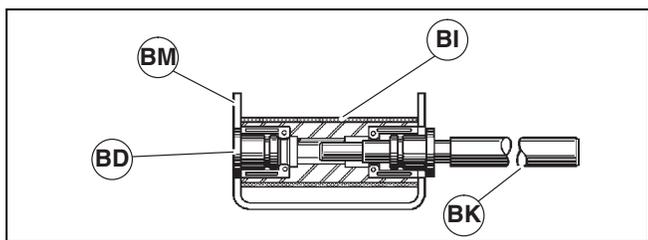

Figure 42
- Using sleeve arbor tool (BK) as a lever, align pulley bore with conveyor frame opening.
- Insert retaining sleeve (Figure 42, item BD) into pulley (BI) until flush with conveyor frame (BM).